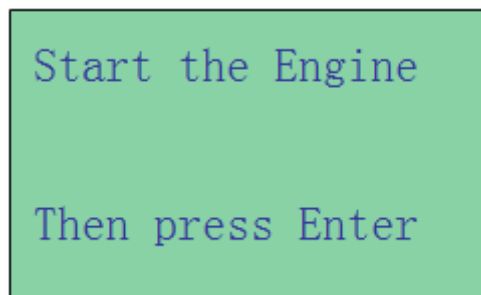

Figure 22
4. Press  key to continue and the display will show: (Fig.22)